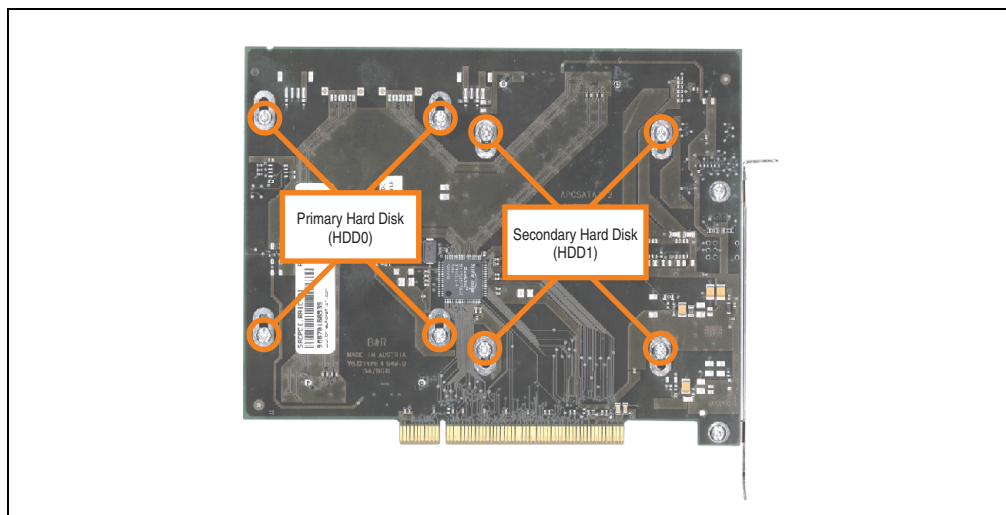

Figure 459: Screw assignment on the back side of the SATA RAID controller
- Loosen the 4 appropriate mounting screws (M3x5) - see Figure 459 "Screw assignment on the back side of the SATA RAID controller", on page 783.